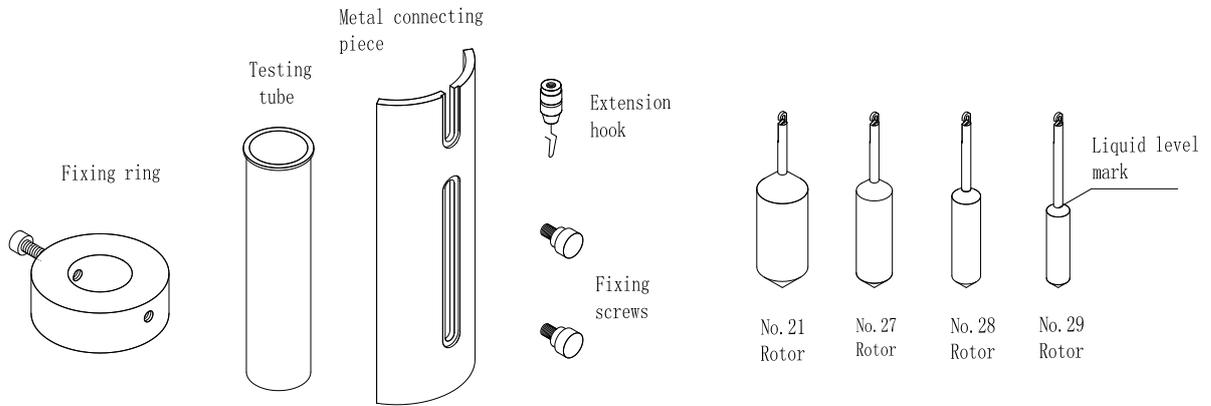
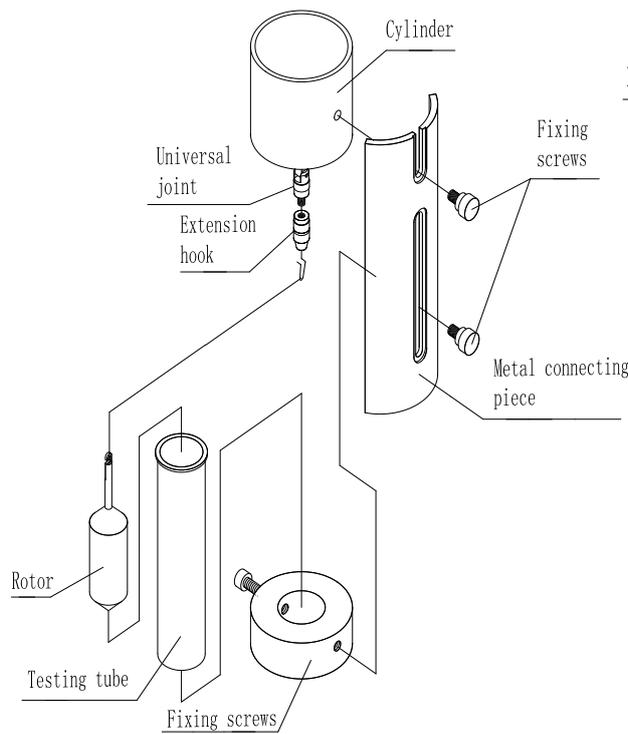

Fig. 8
Fig. 9
(1) The rotor part of viscometer consists of a fixing ring, a testing tube, a metal connecting piece, an extension hook, fixing screws and four rotors (#21, #27, #28 and #29), as shown in Fig. 8.
(2) Prepare the tested sample and control the temperature of the tested liquid if possible. Transfer a suitable amount of the tested sample into the testing tube as per the rotor selected (see Tab. 1).
(3) Screw the extension hook into the universal joint **clockwise (counter-thread)** as per Fig. 9, and select and hook a rotor according to the sample viscosity range.
7) Adjust the immersion depth of the rotor, align the liquid level with the "Liquid level mark" on the rotor. The liquid level mark is according to the top the rotor cone end. See details in Fig. 8.
(8) Level the instrument again, and make the bubbler at the center.
(9) Select and confirm the suitable rotating speed, and press "Start" key to test the viscosity directly.